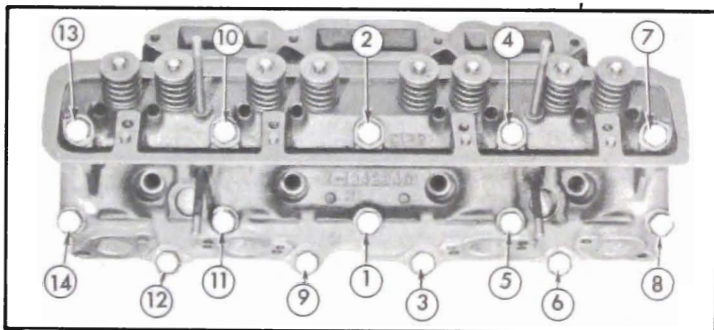

Figure 2-19—Cylinder Head Bolt Tightening Sequence
(1) When handling thin crimped steel gaskets use care to prevent damage to the lacquered surface coat and to prevent kinking at sealing rings stamped in gasket. The lacquered gasket should not be coated with any type of sealing material when installed. *Always use a new steel gasket because the stamped sealing rings are flattened in a used gasket.*
(2) Right and left cylinder heads are identical except that the water inlet port is open at front end and is plugged at rear end as installed on engine.
(3) After installation of cylinder head, tighten all bolts a little at a time about three times around in sequence shown in figure 2-19, then finally tighten in same sequence to 65-75 ft. lbs. torque.